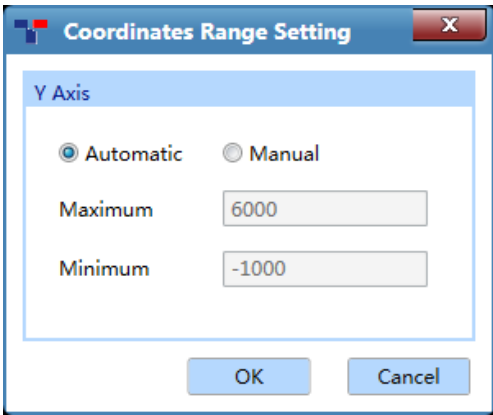

Figure D- 9.1a Abs Quant analysis interface - Coordinate Range Setting
- <  **Y-axis Coordinate Adjustment** >: user can adjust the Y-axis coordinate of the amplification curve diagram. Please click <  **Y-axis Coordinate Adjustment** > icon and the coordinate range setting box will pop up automatically, as shown in figure D-9.1a. User can select **Automatic** or **Manual** option in the coordinate range setting box to set the Y-axis coordinate. If the **Automatic** option is selected, the application software will automatically adjust the Y-axis coordinate according to the detected fluorescence value; if the **Manual** option is selected, user can manually enter or use  and  keys to set the maximum and minimum value of Y-axis coordinate range in the **Maximum** and **Minimum** input box and click < **OK** > to confirm.